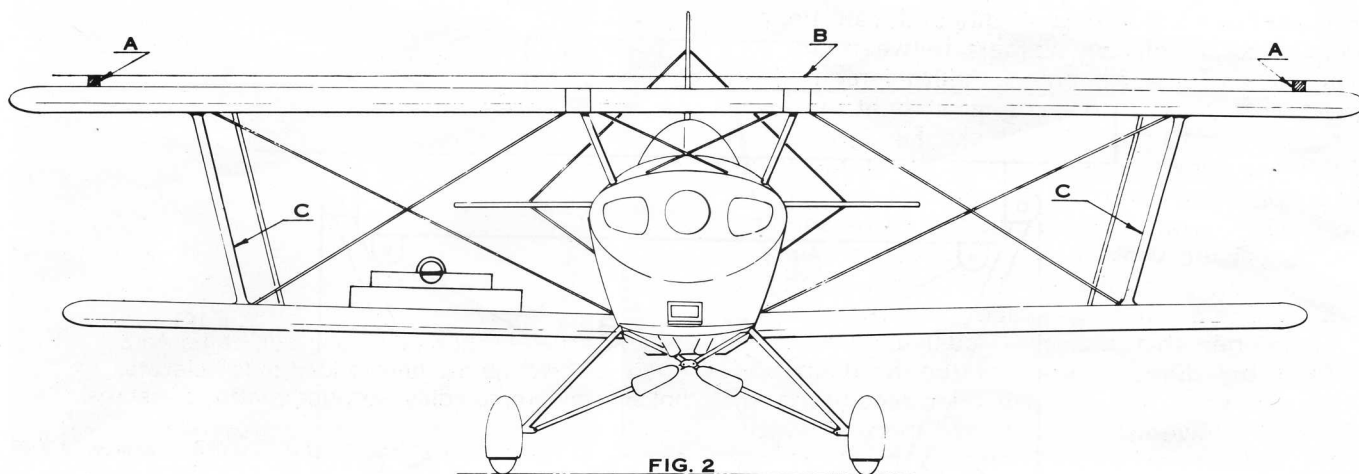

FIG. 2
When rigging the Acro Sport, all flying wires should be loose and the lower wings rigged first for dihedral. The front spar of the wing can be used as the wing reference line, therefore, the angle of dihedral 2 degrees for the Acro Sport can be measured by placing a straight-edge along the top of the front spar, holding a level protractor on the top of this and adjusting and reading the instrument as illustrated in Fig. 2.
or wash-out and 0 degree dihedral can be accomplished by placing washers between the "I" strut and all four spar points. Another method to insure that the upper wing is straight or level transversely is to place two blocks, Fig. 2, of equal dimension over the last full size rib at the front wing spar, and stretch a string (B) as shown, the distance from the string to any corresponding portions of the wing or center section should be the same. As an additional check, sight along the leading edge of the wing to see if it is straight.